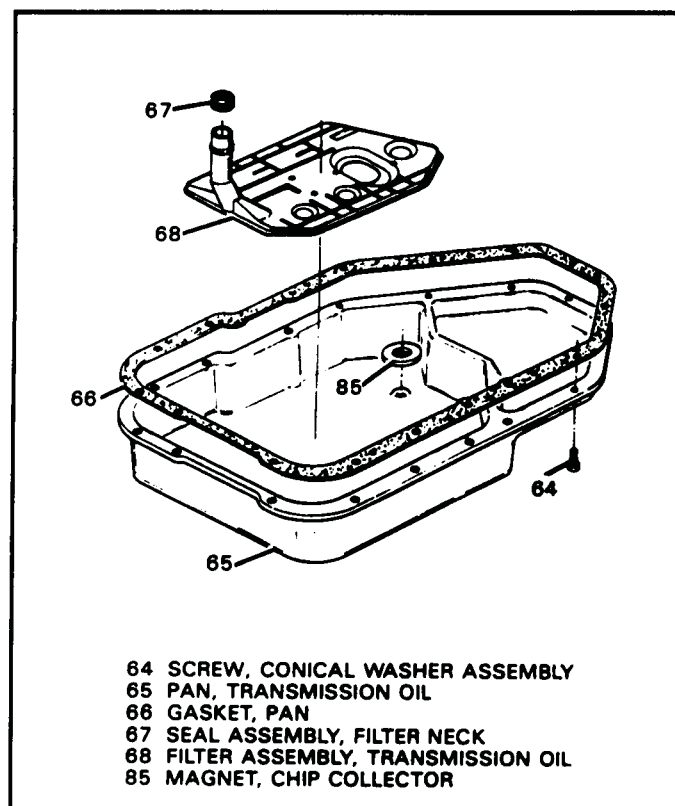

Figure 159
42. Install *two* "O" rings onto the filter neck shown in Figure 159, and lubricate with small amount of "Trans-Jel".
45. Install magnet into the oil pan in the location shown in Figure 159.